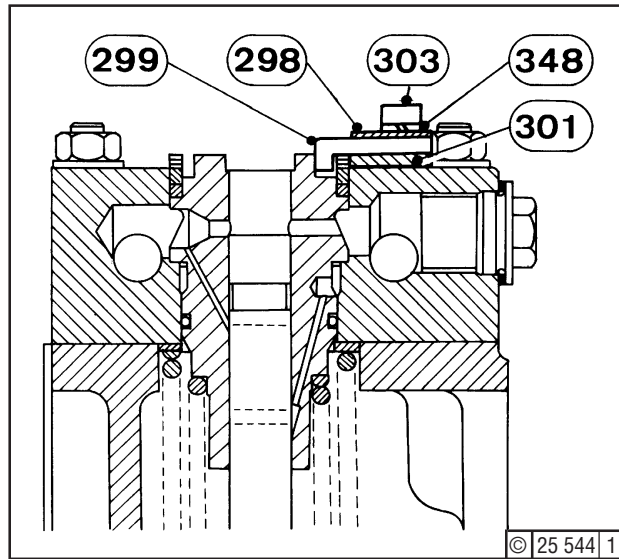

Fig. 2
Removal is initially as described under "Removing the Delivery Valve". Then turn engine by hand until the plunger of the relevant pump element is in top-most position, i.e. with the tappet roller resting on the cam peak. Take out screws (303) - Fig. 2 - together with washers (348). Remove plate (298), locking strip (299) and bridge (301).